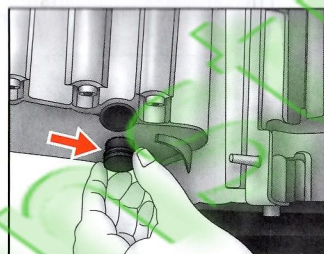

Fig.35
- (4) Remove the crankshaft timing plug located on the side of the sump. (Fig.35)